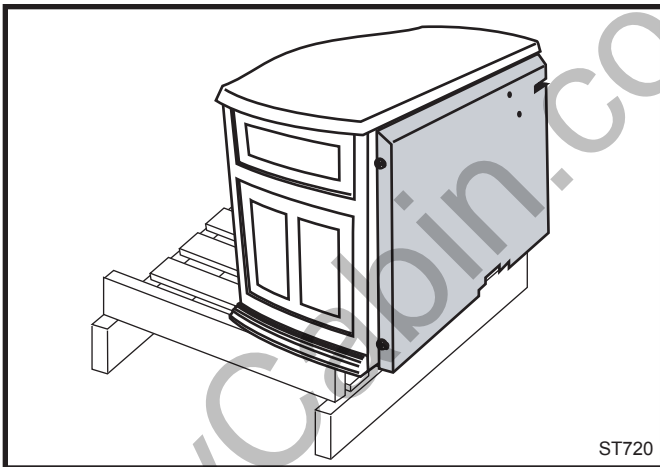

Fig. 8 Slide stove back just far enough to access rear leg holes.
1. Slide stove to the rear of the pallet just far enough to access rear leg holes. Make sure the stove does not tip over backwards. (Fig. 8)